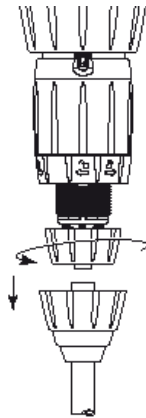

Fig. 16
- Unscrew and take off the suction valve retaining nut (Fig. 16), pull out the valve assembly, dismantle the valve and thoroughly rinse the separate components in clear water.